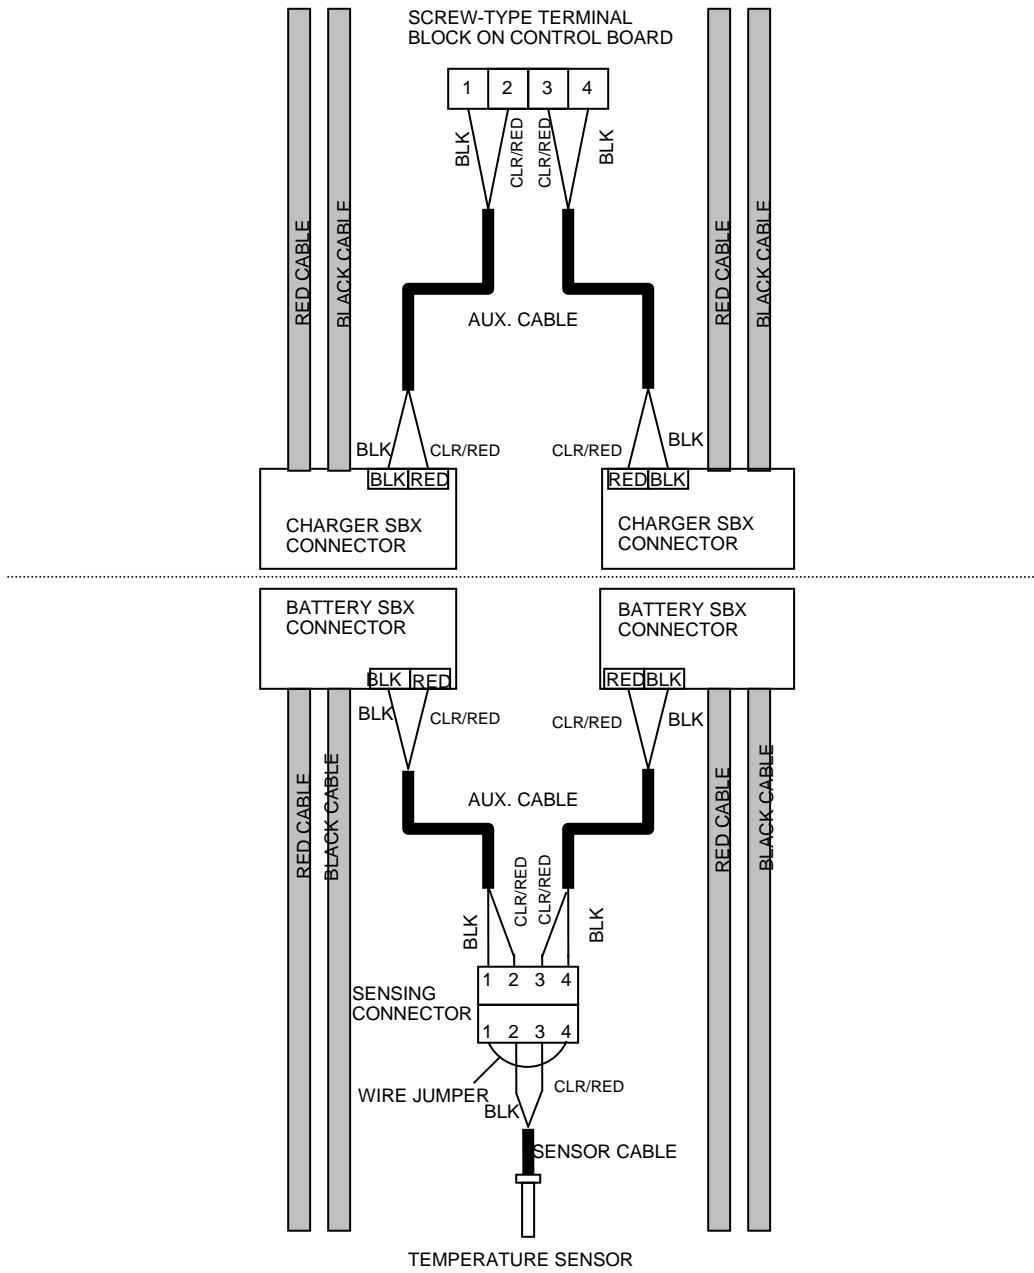

Fig. 5.5 Sensing Lead Installation Diagram
- Open the charger door; verify that the auxiliary wire harness is connected to the screw-type terminal on the control board as shown in Figure. 5.5.